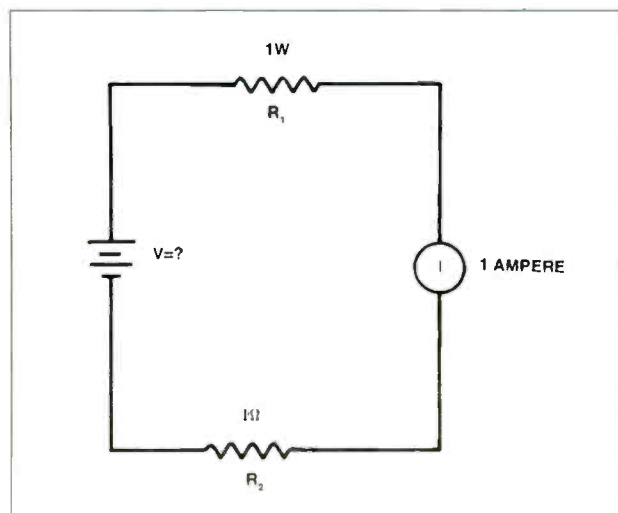

Figure 2. What is the value of voltage 'V'?
4. What is the applied voltage in the circuit of Figure 2?